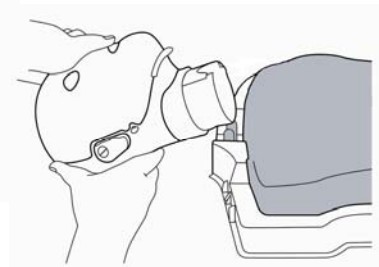

Figure 2
2. Attach the head to the torso by placing the neck of the head onto the two spindles on the neck portion of the torso (Figure 2).